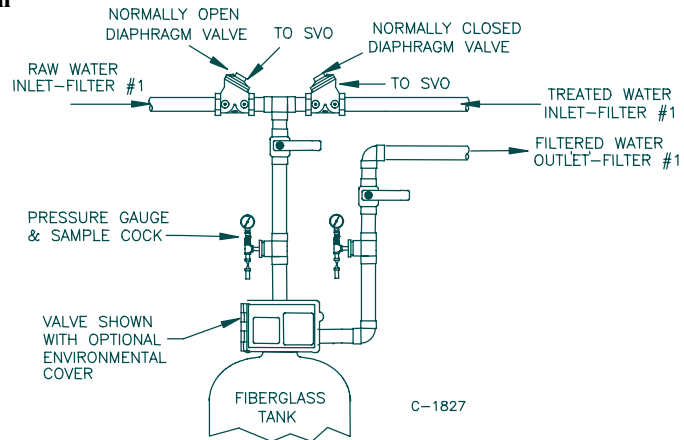

Fig. 4.6 Treated Water Regeneration Kit Typical Installation
- Note: Used only for treated water backwash configuration, (see Fig 4.6)*